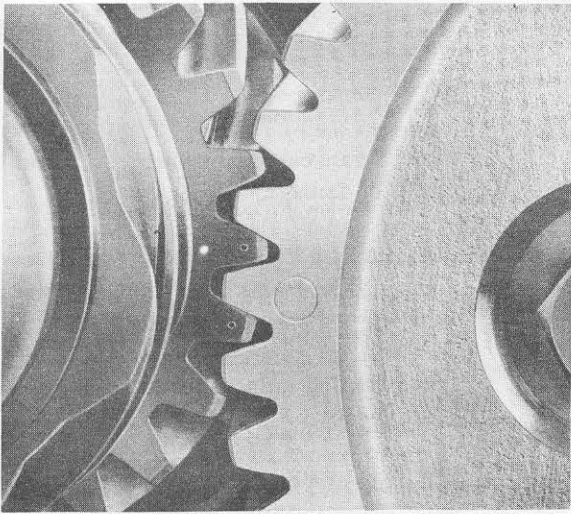

Fig. 142
13. Note correct positioning of timing gears. (See Fig. 142).